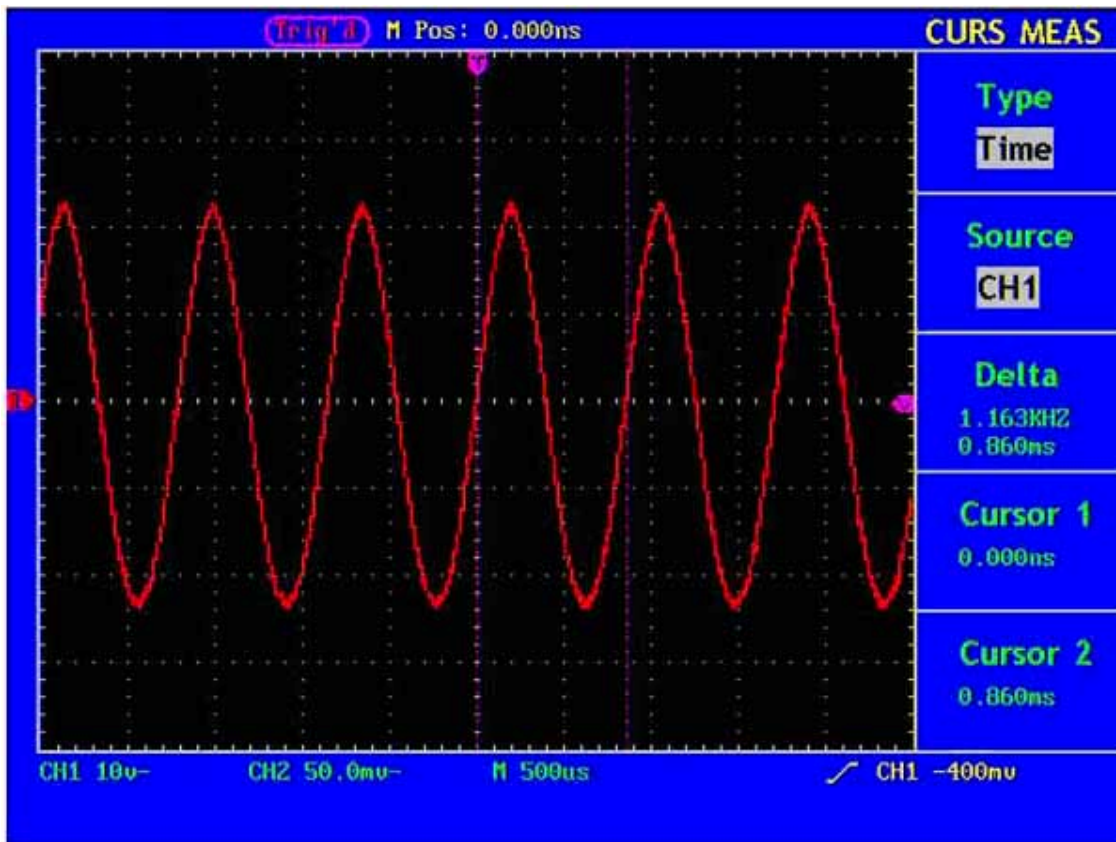

Fig. 54 Wave Form of Cursor Measurement
4. Adjust the positions of **CURSOR1** and **CURSOR2** according to the measured wave form, with the cycle and frequency of Cursor1 and Cursor 2 displayed in the increment window. The current position of Cursor1 is displayed in the Cursor1 window and that of Cursor2 is displayed in the Cursor2 window (see Fig. 54).